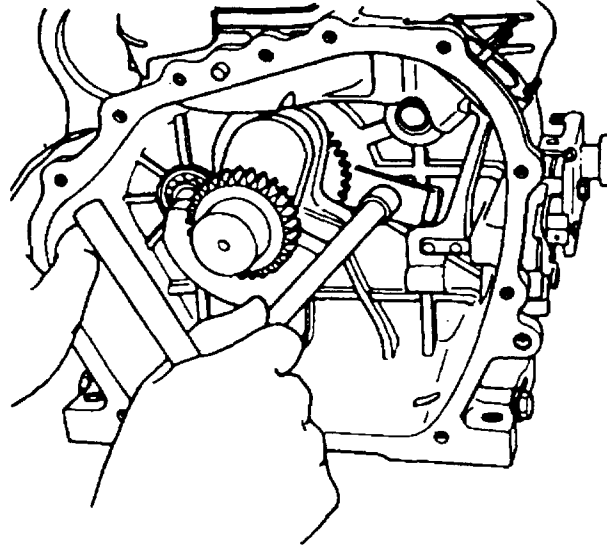

Figure 6-17 Installing the bearing retainer
- 3) Install the bearing holder (see Figure 6-17).